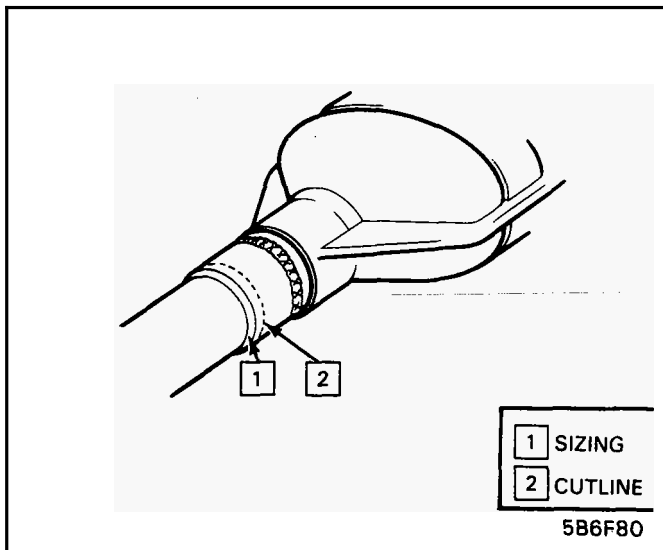

Figure 6F-1 "N" Series Exhaust or Intermediate Pipe Cut Location
- Install replacement pipe, sliding pipe over converter opening. (See Figure 6F-2.)
- Cut the exhaust manifold pipe at the converter close to weld as shown in Figure 6F-3 with chain type pipecutter or metal cutting saw.